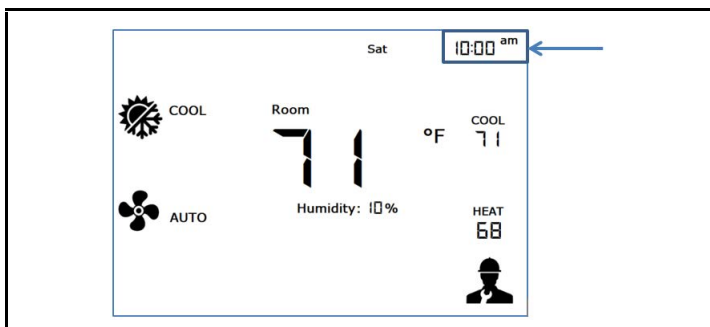

Figure 3-16 - Clock Settings
- On the main display, the clock at top right shows the actual time. To change or update the time, press the clock on the display (see *Figure 3-16*):